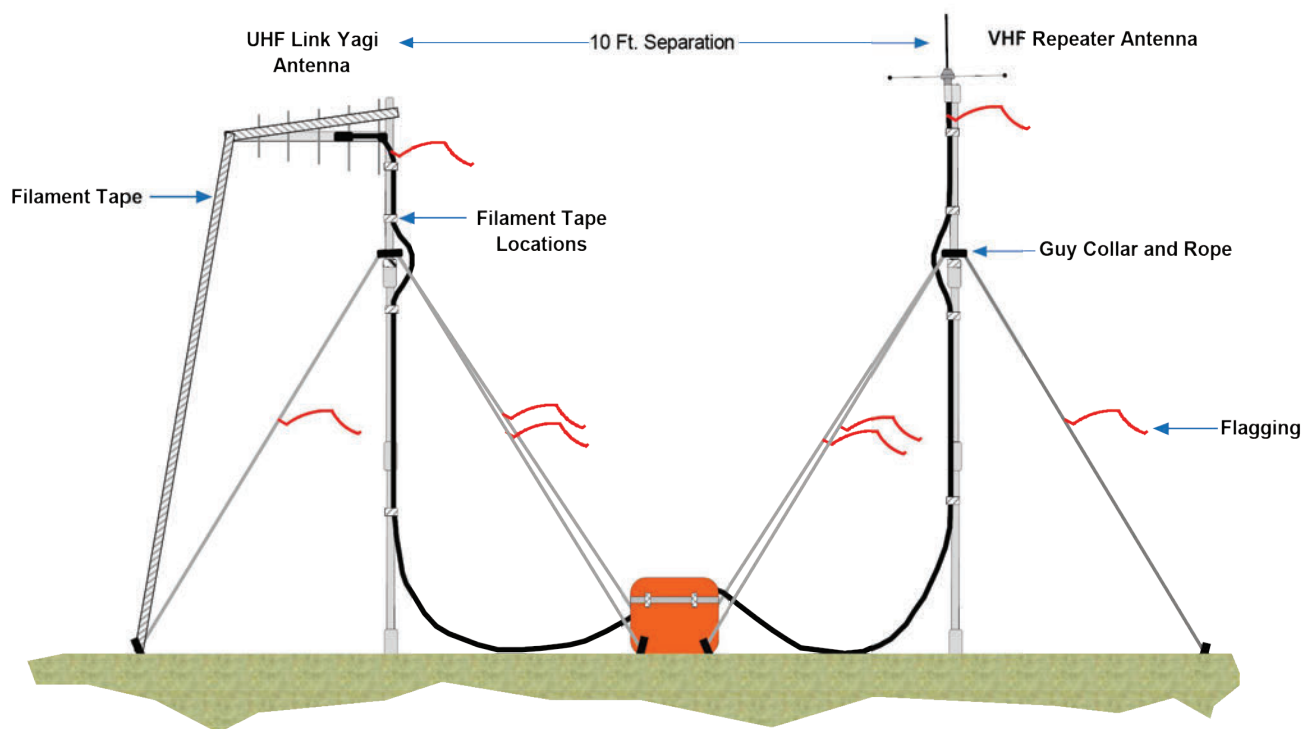

Figure 4:
2. **Antenna Installation** *(See Figure 4)*
3. **Coaxial Cable** *(See Figure 4)*